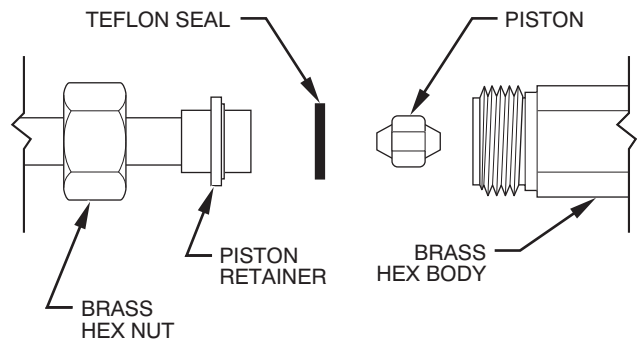

Fig. 21 - Refrigerant Flow-Control Device (For FB)
2. Recover remaining refrigerant from tubing and coil through gage port on vapor-tube service valve. Disconnect refrigerant (liquid) tube from piston body. (See Fig. 21.)